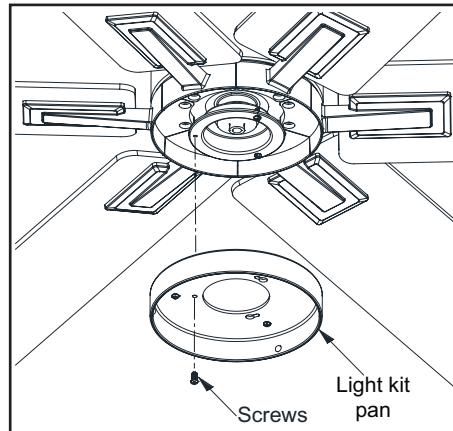

Figure 16
1. Loosen but do not remove two of three mounting screws from the fan motor assembly; Remove one mounting screw. (Figure 16)
2. Push the light kit pan up to the fan motor assembly so that the two loosened screw heads fit into the keyhole slots. Turn the light kit pan clockwise, and tighten the screws. Re-install the screw that was removed in step 1 and tighten firmly. (Figure 16)